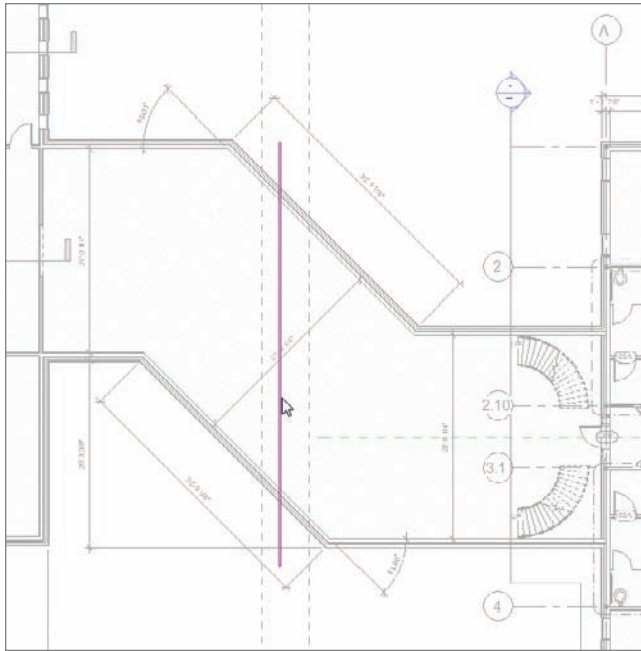

FIGURE 13.10 Placing the match line
5. Draw the match line as shown in Figure 13.10.